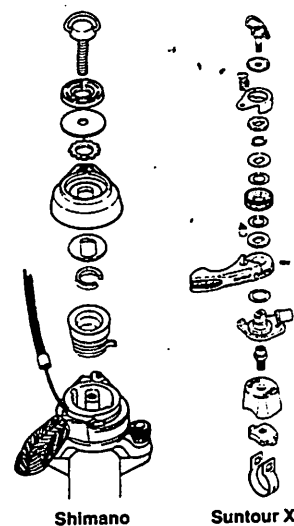

FIG. 41: Exploded view of shift levers.
i. If either shift cable is frayed or worn, replace as follows. Loosen cable fixing bolt on the derailleur. Pull old cable out of the derailleur and spaghetti tubing. Grasp cable where it enters shift lever and push it through the shifter. When lead end protrudes, pull cable out by that end. Replace with new cable. Put a light layer of grease on the cable where it passes through the shift lever and tubing. Then reverse above steps. Adjust derailleur as above. Install a protective cap on the cable end after you have cut off excess cable. Squeeze cap with pliers. Fig. 41 on page 16 shows exploded view of shift lever.